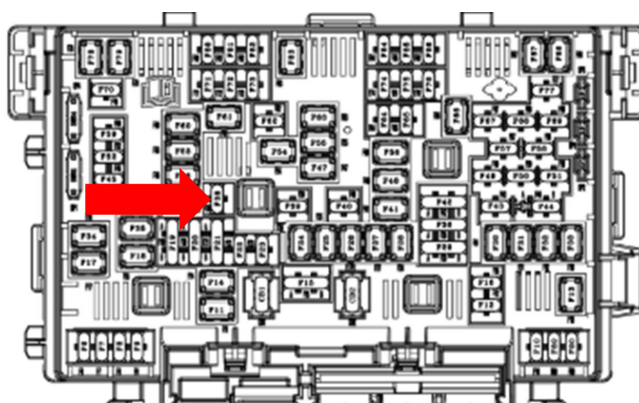

Fig. 3
- Remove the PDC cover, locate and remove the #38 AGSM fuse Fig. 3.
24. Install the #38 AGSM fuse Fig. 3 and the PDC cover Fig. 2.